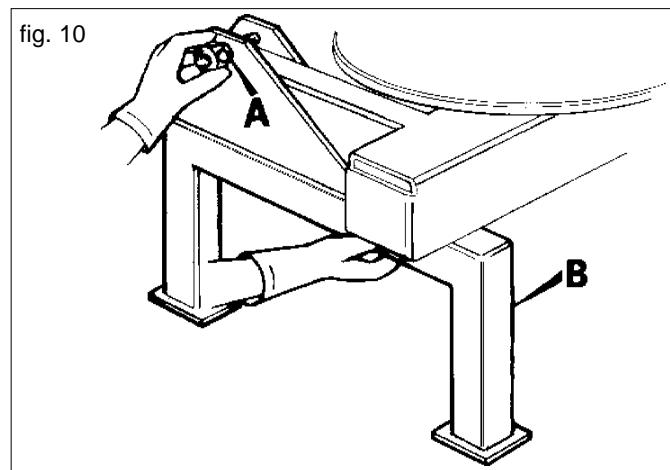

fig. 11
When the P.T.O. shaft is at its maximum extention, the two inner tubes have to overlap at least 15-20 cm. When the P.T.O. shaft is completely closed, there must be a gap of at least 4-5 cm to avoid collisions with the outer side (Fig.11).
- The working angle of the P.T.O. has to be the smallest possible; preferably it should not exceed 10° (Fig.11), so as to make the P.T.O. shaft and the machine last longer.